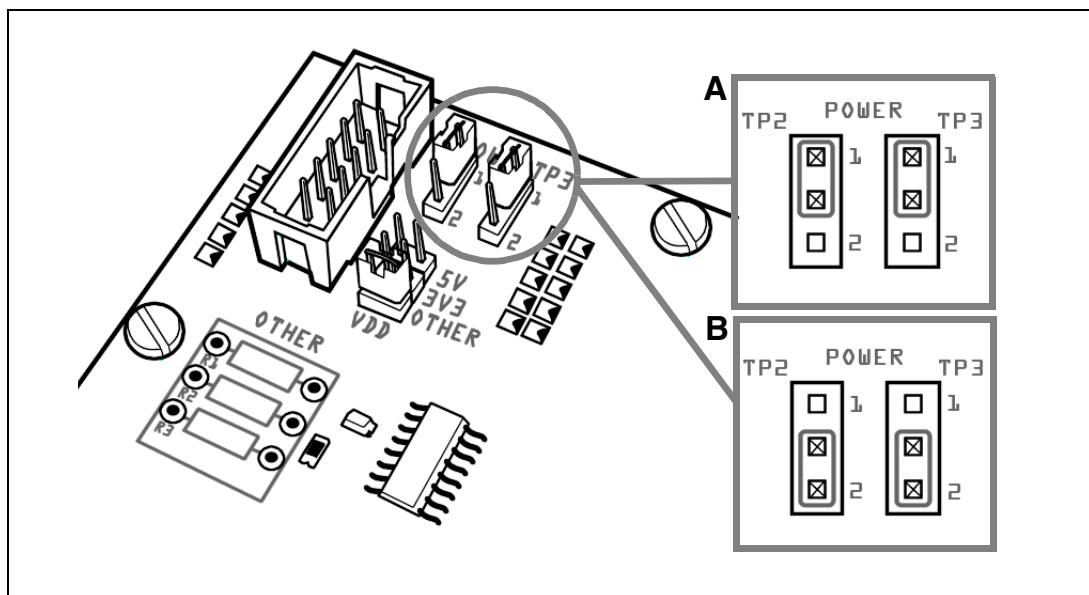

Figure 4: Power supply jumper positions
- 2 Set both **POWER** jumpers to the **2** position, as shown in Figure 4, inset **B**.
- Set **POWER** to **1** if the socket board is supplied by the ST7-STICK, as shown in Figure 4, inset A.
- Set **POWER** to **2** if the socket board is supplied by its own power supply as shown in Figure 4, inset B.